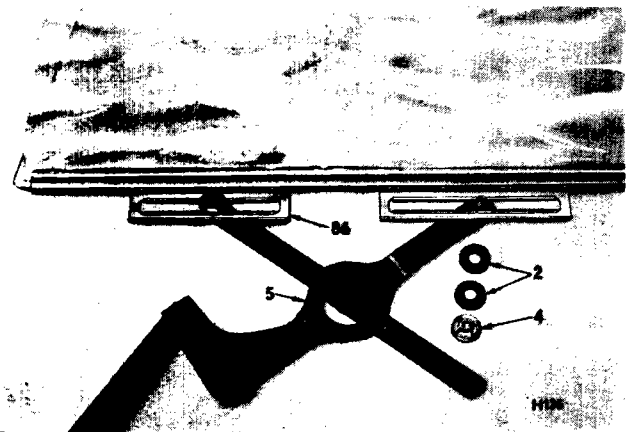

Fig. 71. Regulator arms
1. **To Remove (Fig. 71)**
- (b) Remove the spring clips (4) and leather washers (2). Disconnect the arms from the operating channel on the bottom edge of the glass and lower the glass.